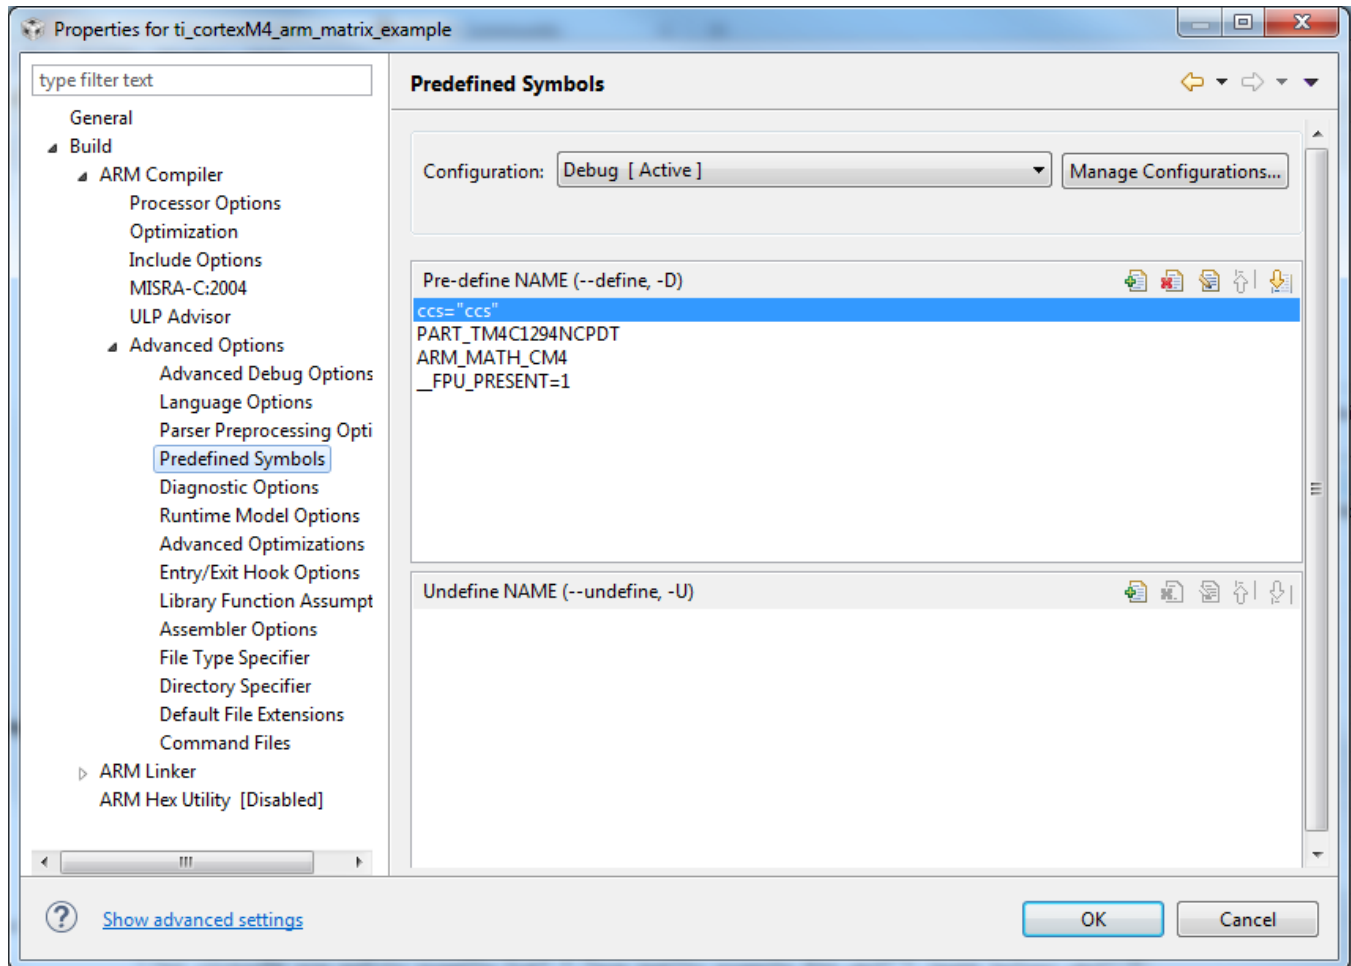

Figure 20. Adding the Pre-Processor Statements Necessary for Building an Example Project on a Cortex-M4 Part With Hardware FPU Support
- Expand the Advanced Options menu again and select the Predefined Symbols panel. Create a symbol to tell the DSP library to use Cortex-M4 based math functions. Click the *Add...* button in the *Pre-define NAME (--define, -D)* area. In the *Enter Value* dialog box, type ARM_MATH_CM4 into the *Pre-define NAME (--define, -D)* field and click **OK** (see Figure 20). Click the *Add...* button in the *Pre-define NAME (--define, -D)* area. In the *Enter Value* dialog box, type __FPU_PRESENT=1 into the *Pre-define NAME (--define, -D)* field and click **OK**.